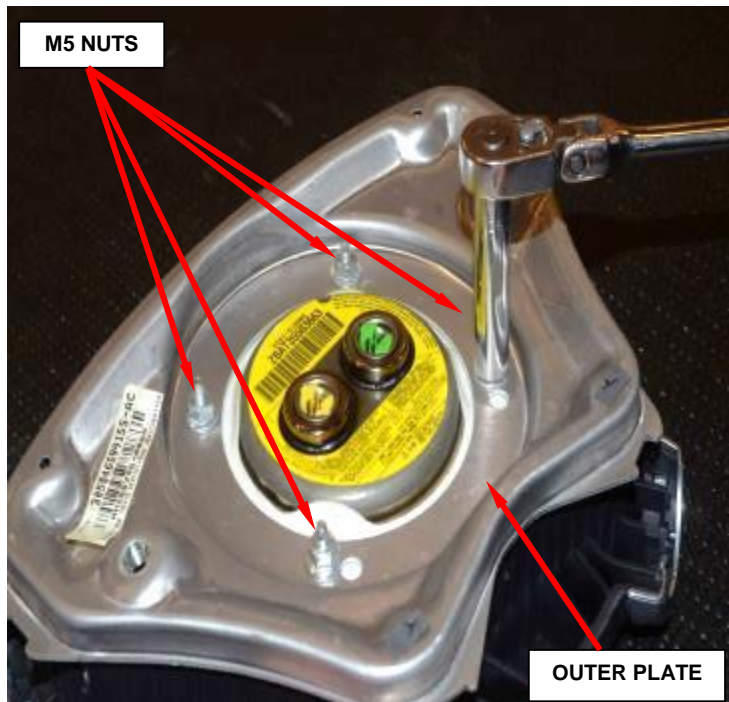

Figure 4 – M5 Mounting Nuts
8. Remove and **save** the four M5 outer plate mounting nuts (Figure 4).